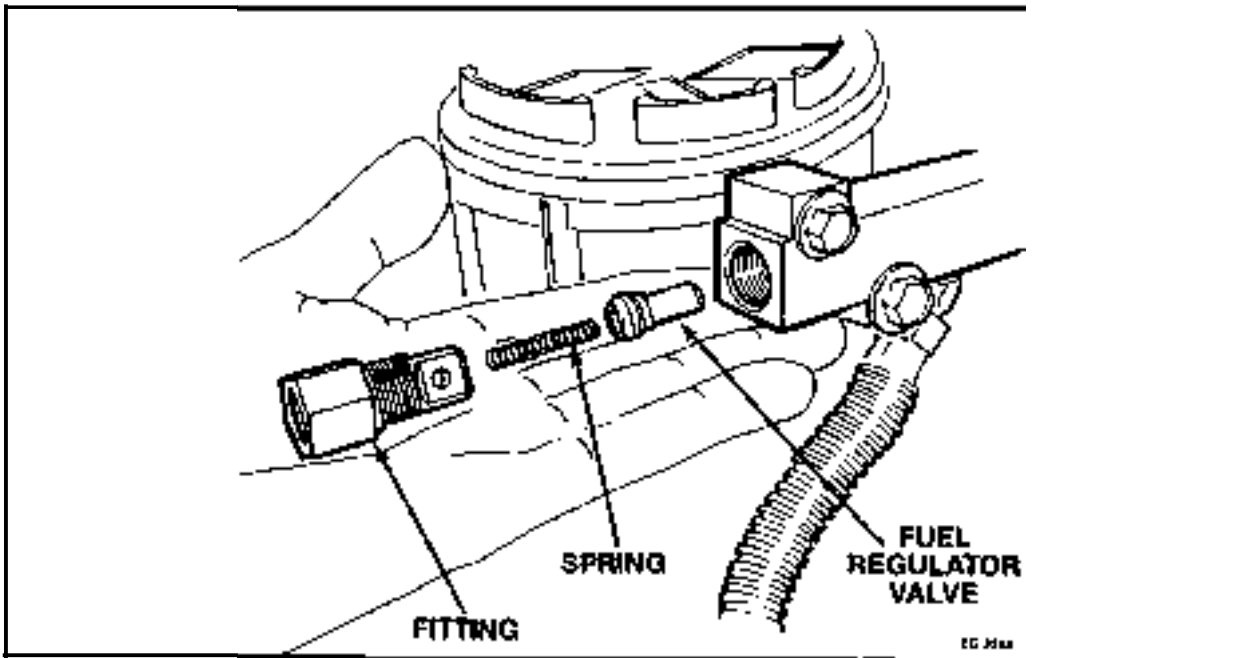

Figure 2.3-13. - Fuel Regulator Valve Removal and Inspection
1. Remove fuel return line from adapter fitting on fuel regulator block. (Figure 2.3-13.)